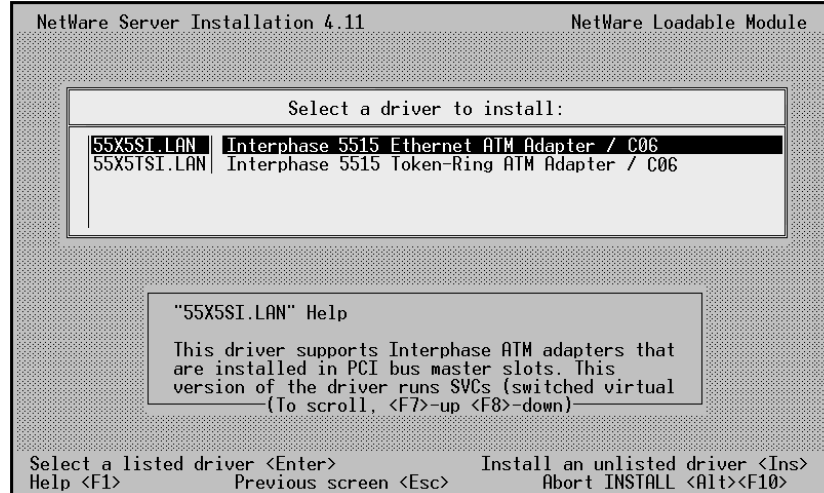

Figure 9-1. Selecting a Driver
5. If you selected to load the driver for another client, the Select a Driver dialog box reappears (shown in Figure 9-1 on page 111). This time the driver is obtained from your hard disk instead of the CD-ROM. To continue: